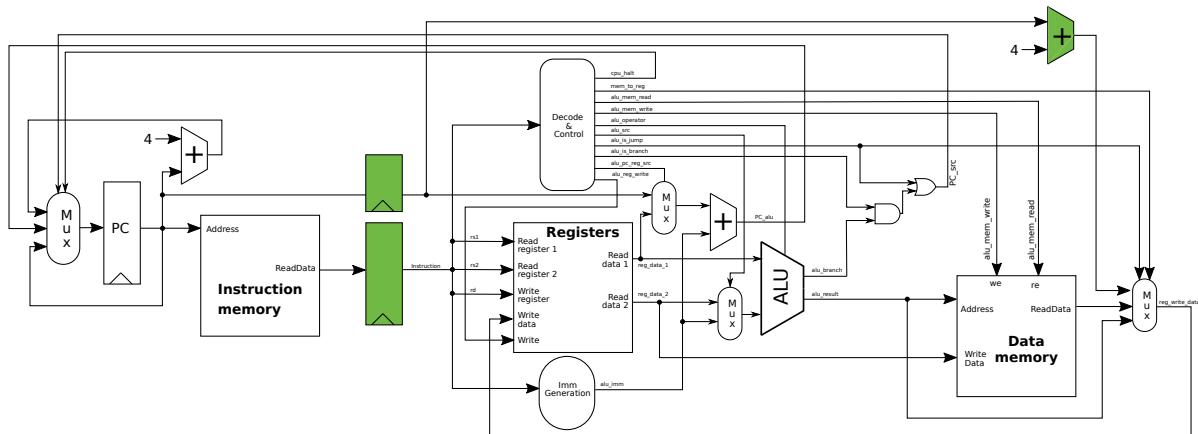

Figure 3.2: 2-stage pipelined processor.
In Figure 3.2, we introduce a pipeline register between the instruction fetch (IF) and the instruction decode (ID) part of the processor. We transform the single cycle MicroRISC-V to a two stage pipelined processor, that has an instruction fetch and Decode/Execute/Writeback stage.